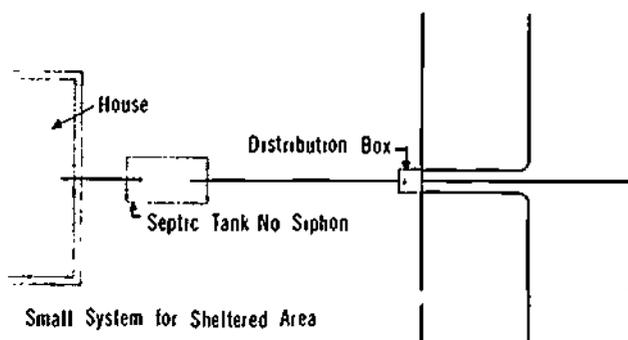

Figure 24-5. Disposal-Field Layout with a Single Distribution Box
- If the siphonless tank is used with a disposal field, the layout should be such that all the laterals will receive an equal amount of the effluent. Figure 24-5 shows a disposal-field layout using a single distribution box.